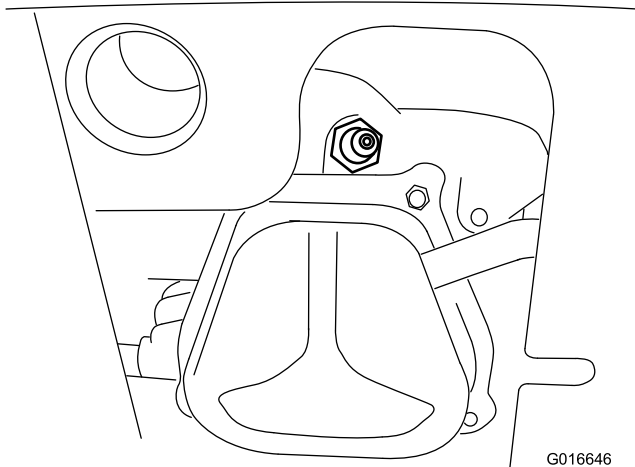

**Figure 35**
1. Remove the boot (Figure 35).